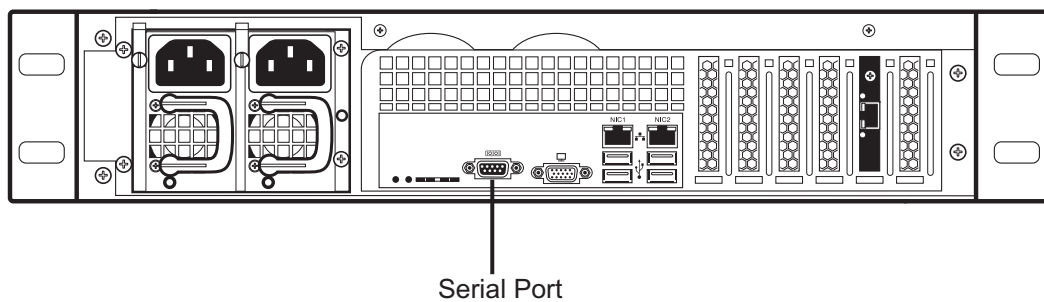

Figure 3.1 7800-CTRL Serial Port Connection
1. Connect a male-male DB9 cross-connect cable between the DB9 serial port of your computer and the DB9 serial port of the 7800-CTRL. See figure 3.1 on page 54.